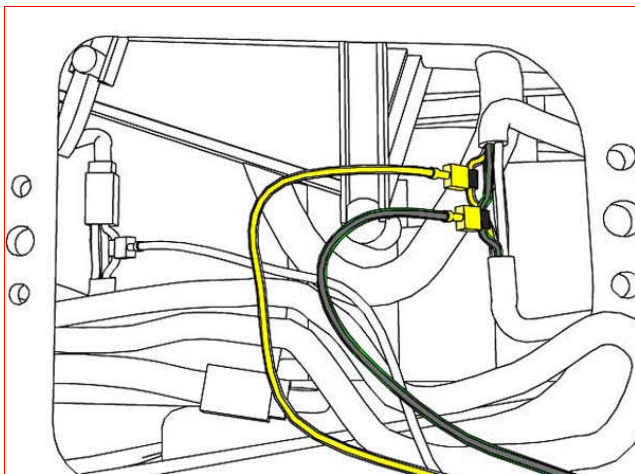

Figure 4
**Dyna Tech Tip: To gain access to power (Dyna figure 2) and injector wires (Dyna figures 4 & 5) you must cut zip ties (highlighted yellow) and pull necessary harnesses out from under frame (under seat).**